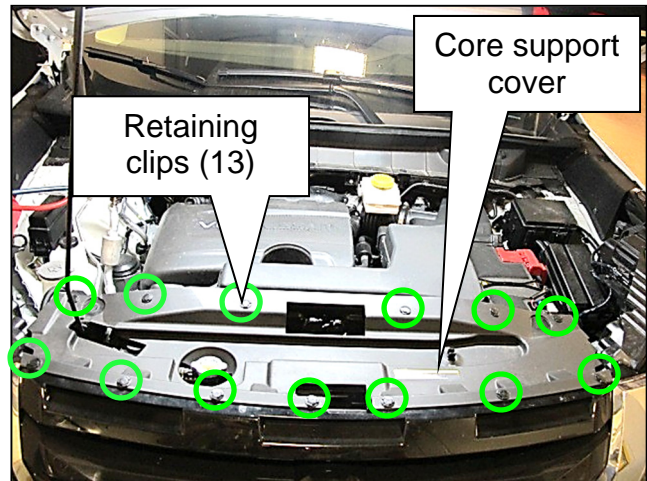

Figure 30
21. Install the core support cover, and then install the thirteen (13) core support cover retaining clips (Figure 30).